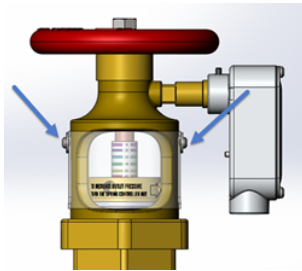

Figure 1: Tamper-Resistant Security Screws
1. Remove the Tamper-resistant security screws from the clear cover by using an ADJ-T Security tool provided with the valve. (If Supervisory Switch is installed, you may need to tilt this switch for access.) See Figure 1.